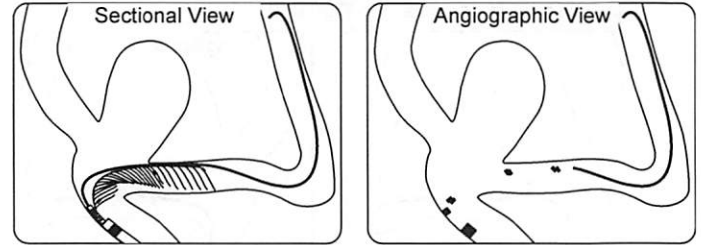

Figure 7
25. Deploy the remainder of the eCLIPs™ Device down the parent and/or trunk artery of the bifurcation site by stabilizing the eCLIPs™ Hypotube and pulling back on the eCLIPs™ Microcatheter. See Figure 7 below.